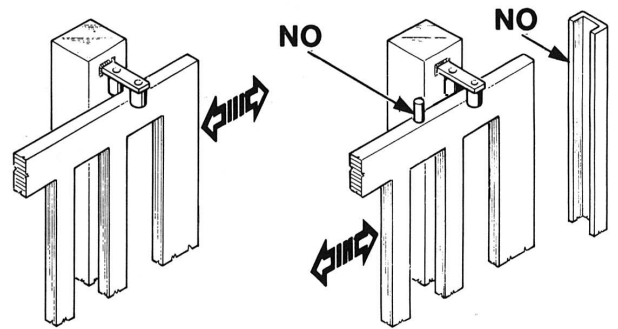

FIG. 3
**N.B:** Eliminate those mechanical stops of the kind described by figure 3.